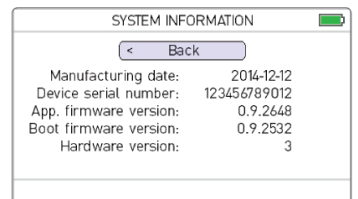

Figure 48. System Information
- Press . SYSTEM INFORMATION is shown (See figure 48)